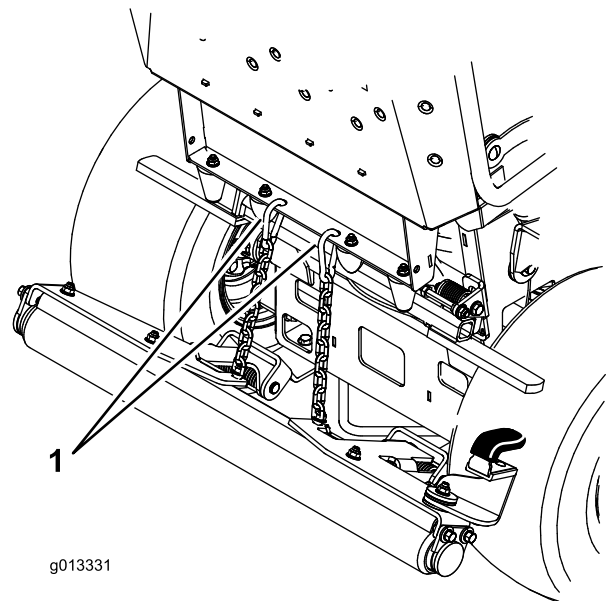

Figure 5
1. Hold the operator platform while releasing the platform latch. Lower the platform down until the chain ends can be snapped into the holes previously drilled into the platform bar (Figure 5).
2. Snap the chain end into the holes previously drilled into the platform bar (Figure 5).